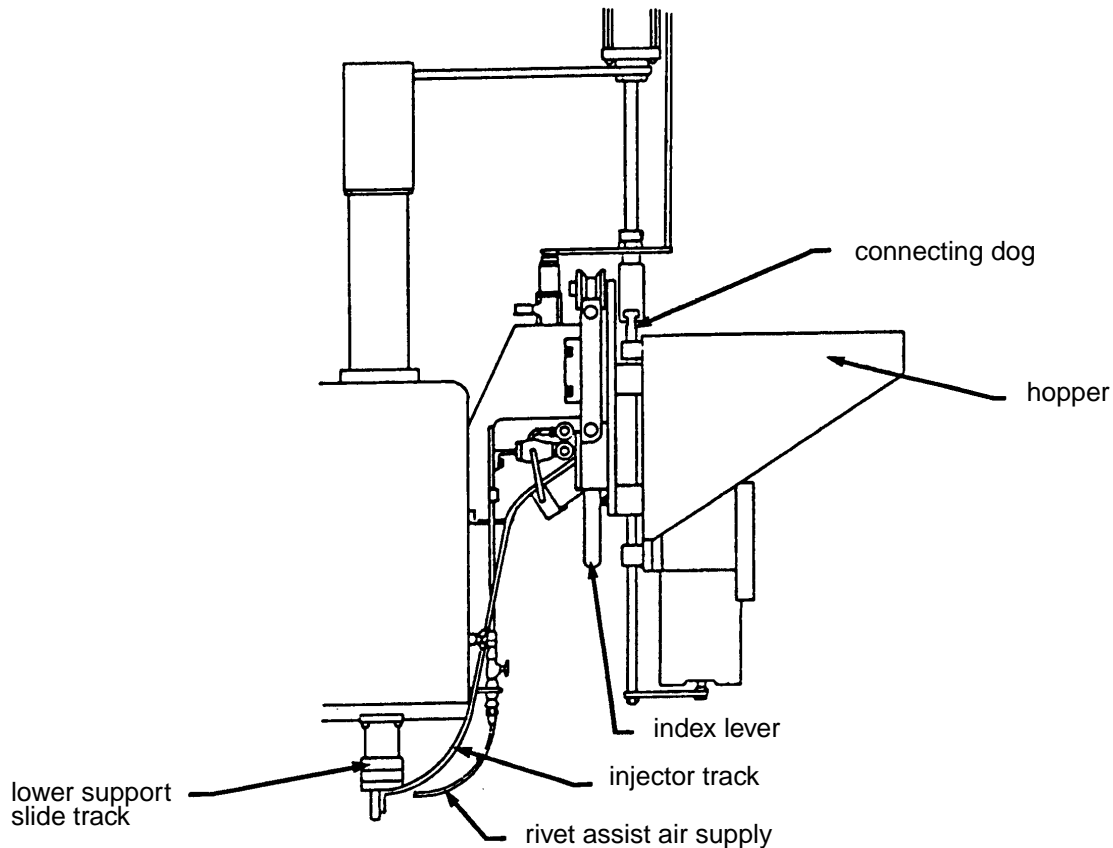

Figure 5 - Hopper - Long Track/Injector Assembly
5.2.2 The saddle hoppers (applicable for model CE3941) are colour coded and there are 4 on each side of the machine. Each hopper also has the diameter and type of rivet marked on it. Each hopper has a separate, colour coded long track or injector assembly with colours matching those of the corresponding hoppers (see Figure 5). Set-up saddle hoppers as follows: